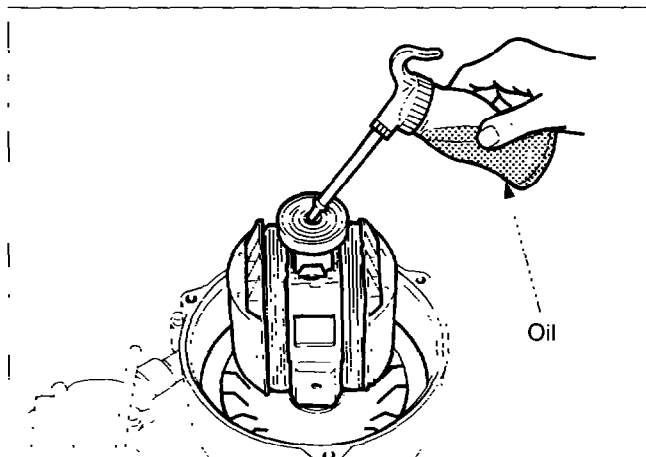

Fig. 10-24
| | | <p>(3) Use a bolt and oil as a tool for pulling out rotor in the following procedures :</p> <ol style="list-style-type: none"> 1. Pour engine oil into the center hole of rotor shaft. Fill with oil to the shaft end. (See Fig. 10-24.) 2. Prepare a bolt with the following thread size : M8 × P 1.25 3. Apply a few turns of seal tape around the tip of the bolt. (See Fig. 10-25.) | | |